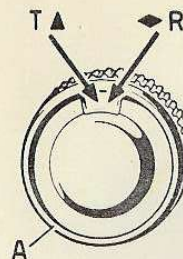

Fig. 64
- Turn knob « A » (Fig. 64) until diamond mark « R » appears through its small window.